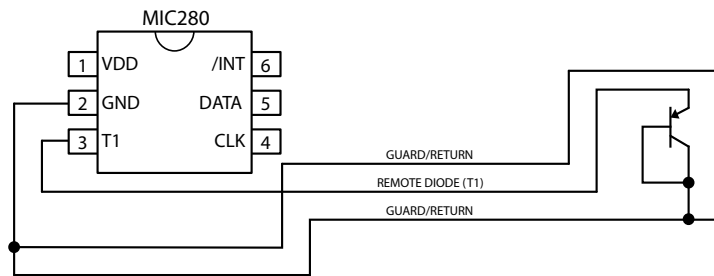

Figure 6. Guard Traces/Kelvin Ground Returns
2. Since any conductance from the various voltages on the PC Board and the T1 line can induce serious errors, it is good practice to guard the remote diode's emitter trace with a pair of ground traces. These ground traces should be returned to the MIC280's own ground pin. They should not be grounded at any other part of their run. However, it is highly desirable to use these guard traces to carry the diode's own ground return back to the ground pin of the MIC280, thereby providing a Kelvin connection for the base of the diode. See Figure 6.
3. When using the MIC280 to sense the temperature of a processor or other device which has an integral thermal diode, e.g., Intel's Pentium II, III, IV, AMD Athlon CPU, Xilinx Virtex FPGAs, connect the emitter and base of the remote sensor to the MIC280 using the guard traces and Kelvin return shown in Figure 6. The collector of the remote diode is typically inaccessible to the user